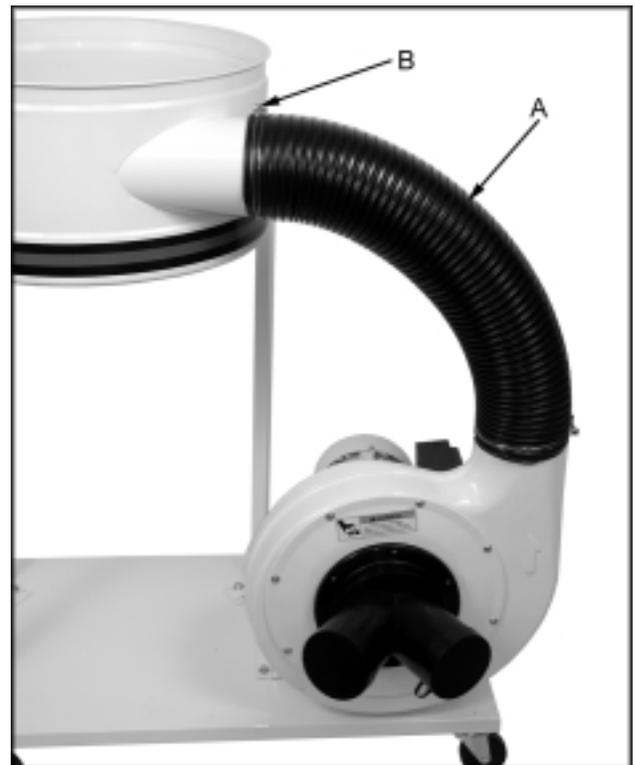

Fig. 6
6. Attach the hose (A, Fig. 6) between the fan housing and the collector housing with *two* clamps (B, Fig. 6). Tighten the clamps to secure the hose.